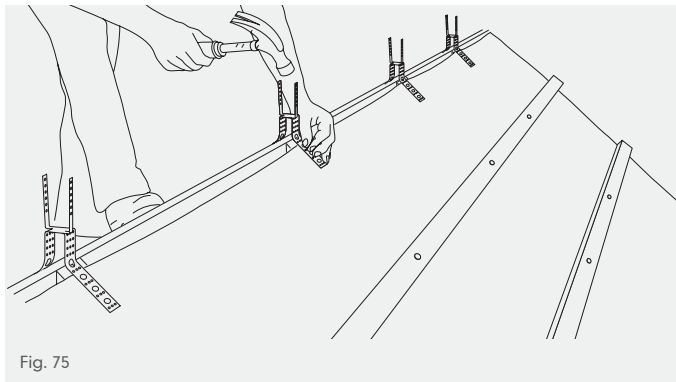

Fig. 75
- 1 Lay the roof underlay and battens in the normal manner leaving a minimum 5mm continuous gap in underlay at roof apex (refer to BS 5250 recommendations for specific advice) (Fig. 75).